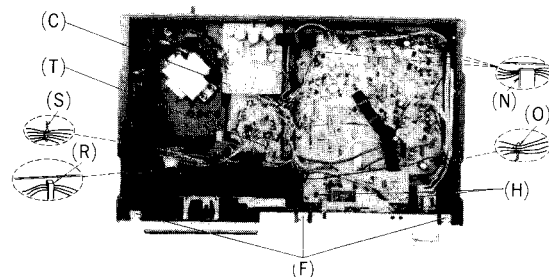
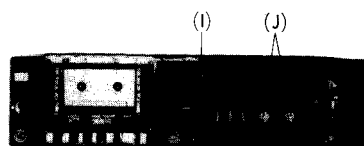

Fig. 3
Fig. 4
B Head azimuth adjustment Condition: * Playback mode Equipment: * VTVM * Oscilloscope * Test tape (azimuth) ... QZZCFM * Test tape (tape path viewer) ... QZZCRD	<p>Combination head azimuth adjustment</p> <ol style="list-style-type: none"> 1. Test equipment connection is shown in fig. 3. 2. Playback azimuth tape (QZZCFM 8kHz). 3. Adjust record/playback head angle adjustment screw (B) in fig. 4 so that output level at LINE OUT becomes maximum. 4. Measure both channels, and adjust levels for equal output. 5. After adjustment lock head adjustment screw with lacquer.  <p style="text-align: center;">Fig. 3</p>  <p style="text-align: center;">Fig. 4</p>
<p>Ⓕ Playback gain</p> <p>Condition:</p> <ul style="list-style-type: none"> * Playback mode * Normal position * Output level control ... MAX <p>Equipment:</p> <ul style="list-style-type: none"> * VTVM * Oscilloscope * Test tape ... QZZCFM 	<p>1. Test equipment connection is shown in fig. 3.</p> <p>2. Playback standard recording level portion on test tape (QZZCFM 315Hz), and using VTVM measure the output level at LINE OUT.</p> <p>3. Make measurement for both channels.</p> <div style="border: 1px solid black; padding: 5px; text-align: center;"> Standard value: around 0.7 V </div> <p>Adjustment</p> <p>1. If measured value is not standard, adjust VR1 (L-CH), VR2 (R-CH) (See fig. 1).</p> <p>2. After adjustment, check "Ⓕ Playback frequency response" again.</p>